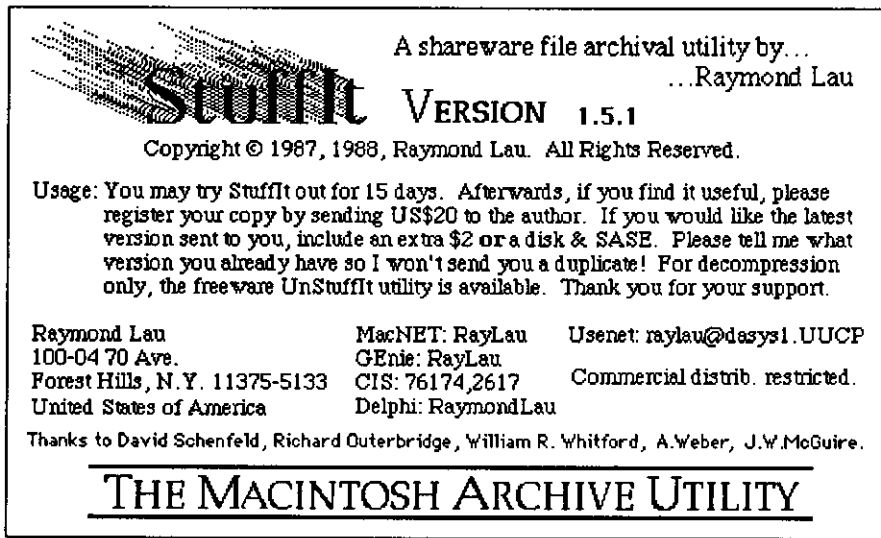

Figure 1—Stuffit Utility Information
- 1) You need a copy of the shareware compression utility Stuffit 1.5.1 to decompress and install the stack and accompanying illustrations. You can obtain this utility on AppleLink in the Developer Services BBS (🍏 Developer Services:Developer Technical Support:Macintosh:Compression Utilities) as well as on other electronic services and BBS systems. Figure 1 provides the information necessary to obtain a copy of Stuffit 1.5.1 if you do not have access to any electronic services or user group libraries.